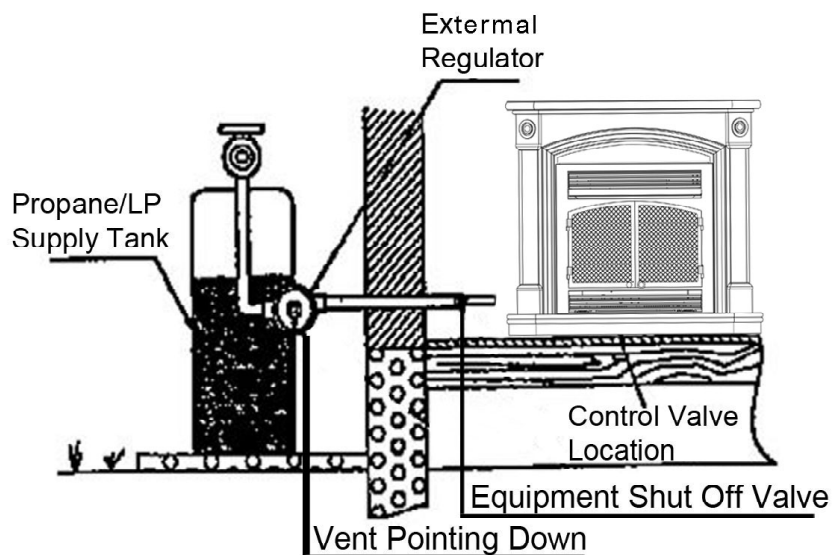

Figure 9 -Checking Gas Joints
4. Check all joints from equipment shutoff valve to control valve (Figure 9). Apply mixture of liquid soap and water to gas joints. Bubbles forming show a leak.
3. Check all joints from gas meter to equipment shutoff valve (see Figure 9). Apply mixture of liquid soap and water to gas joints. Bubbles forming show a leak.